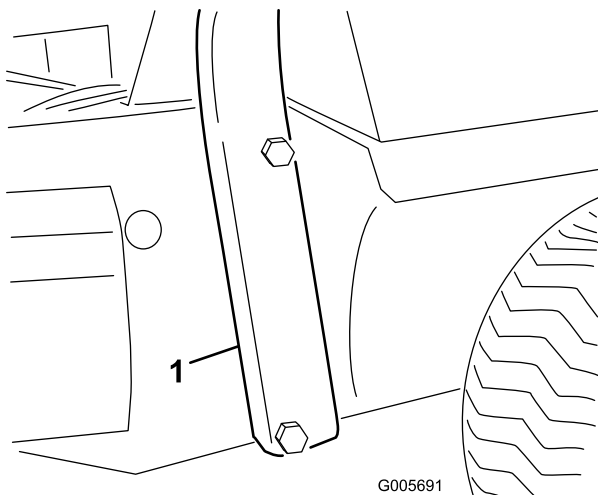

Figure 15
1. Lower roll bar onto frame, aligning mounting holes as shown in Figure 15.
2. Secure roll bar to frame with 4 bolts (3/4 x 5-1/2 inch), lock washers, and nuts (Figure 15). Tighten securely.